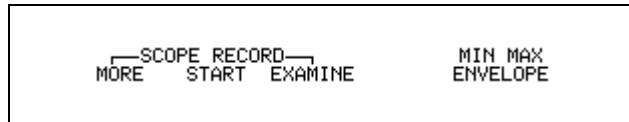

Figure 5-16. Recording Menu
In SCOPE mode, press  to access the waveform recording functions (see Figure 5.16). You can use these functions to examine waveform changes over time.
- From the Min Max Record menu press  (EXAMINE). See Figure 5-16.